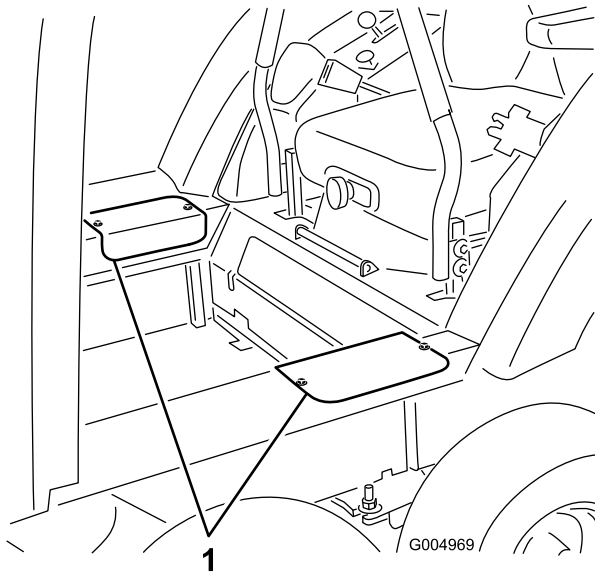

Figure 32
24. Install the side access covers with the screws previously removed (Figure 32).